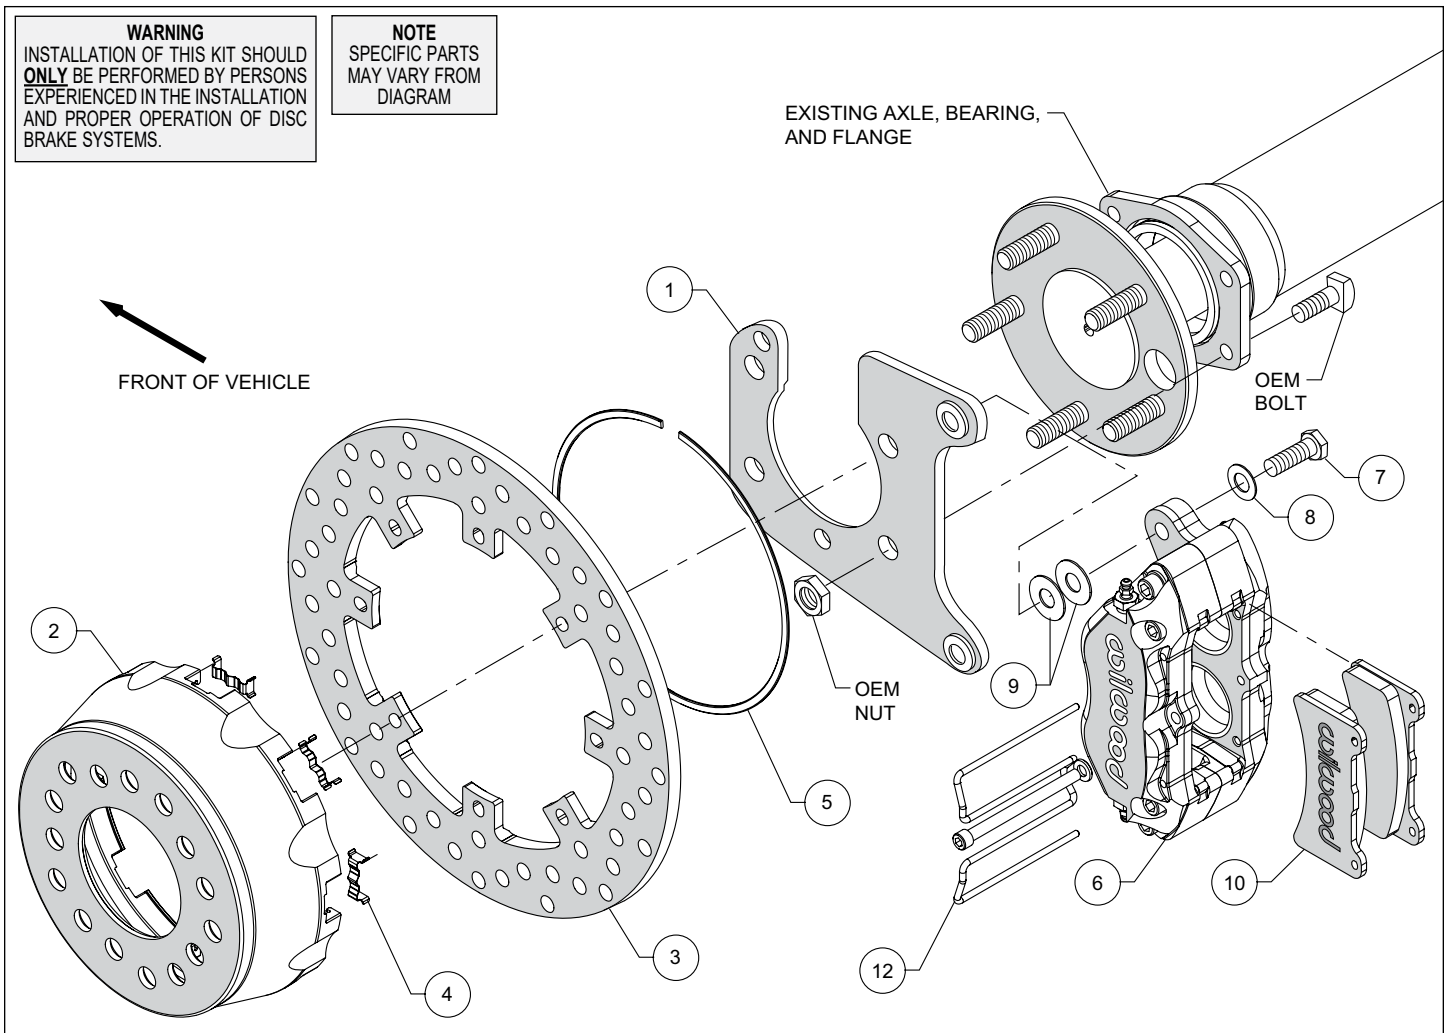
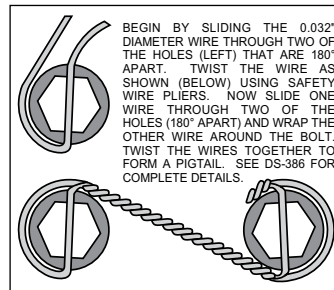
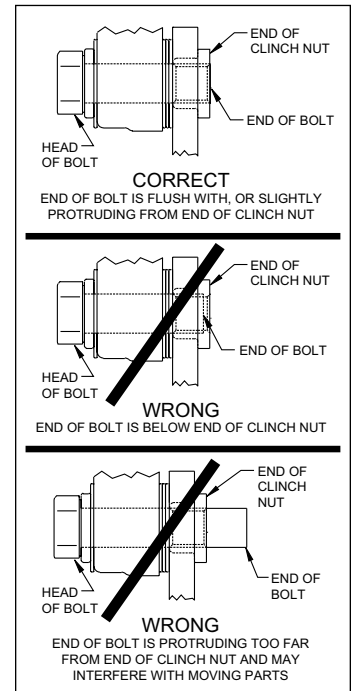

Figure 1. Typical Installation Configuration
Figure 4. Safety Wire Diagram
Figure 5. Clinch Nut Engagement Diagram
Assembly Instructions (numbers in parenthesis refer to the parts list and Figure 1 on the preceding pages): **CAUTION:** All mounting bolts must fully engage clinch nuts. Be sure to check that all bolts are either flush or protruding through flanged side of clinch nut after shimming, Figure 5.
- Install the caliper mounting bracket (1), with the slot for the axle pointing upward, to the housing flange using the OEM bolts and nuts, as shown in Figure 1 and Photo 1. Ensure that the heads of the clinch nuts are facing outboard, Photo 1. Apply red *Loctite*® 271 to the OEM bolt threads and torque to OEM specifications.
- Insert the dynamic mount wear clips (4) into the slots in the hat (2) making sure the tabs snap in place, Photo 2. Orient the rotor (3) as shown in Figure 1 and Photo 3, with the flush mount tab side facing the hat. Attach the rotor to the hat using snap ring (5) by pushing down on the rotor and installing the ring into the groove in the hat, as shown in Photo 4. Ensure that the ring is fully engaged in the groove.
NOTE: Please reference the caution statement at the beginning of the assembly instructions. Mount caliper (6) onto the mounting bracket (1) using bolts (7) and washers (8), as shown in Figure 1. Initially place two .035" thick shims (9) on each bolt between the caliper and the bracket, Photo 5. Temporarily tighten the mounting bolts and view the rotor (3) through the top opening of the caliper. The rotor should be centered in the caliper, Photo 6. If not, adjust the caliper by adding or subtracting shims between the bracket and the caliper. Always use the same amount of shims on each of the two mounting bolts. **NOTE:** The end of each bolt must be flush with or slightly protruding from the head of the clinch nut. If necessary, place spare shims between washer and caliper mounting ear to achieve the proper clinch nut engagement, as shown in Figure 5. Once the caliper alignment and clinch nut engagement are correct, remove the bolts one at a time, apply red *Loctite*® 271 to the threads, and torque to 40 ft-lb. For an added measure of security, the bolts may be safety wired using standard 0.032 inch diameter stainless steel safety wire as shown in Figure 4. Please refer to Wilwood's data sheet DS-386 (available at www.wilwood.com/Pdf/DataSheets/ds386.pdf) for complete safety wire installation instructions.